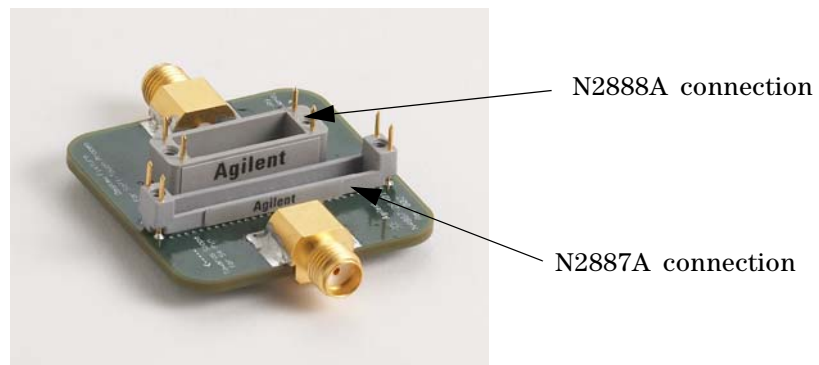

Figure 92 Deskew Fixture with N2887/8A Connections
- 4 Connect either the N2887A or N2888A probe head to the deskew fixture as shown in the Figure 92 on the following page (note: use the appropriate connector for either the N2887A or N2888A model as shown on the following page).